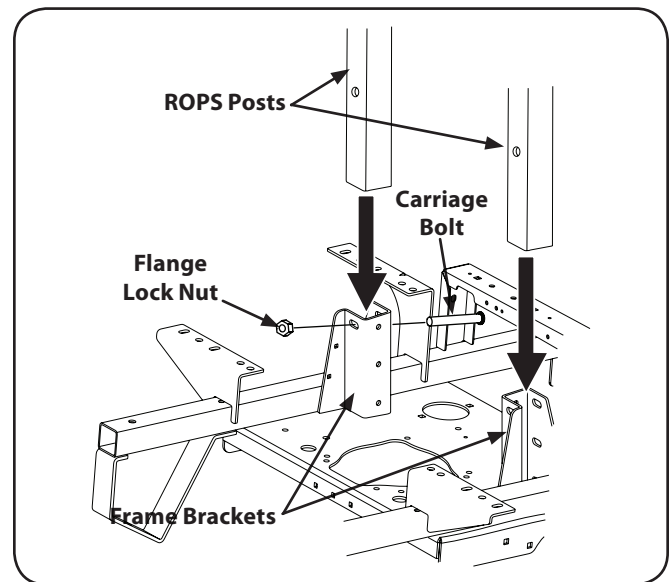

Figure 3-2
1. Insert each of the lower section ROPS tubular posts into the brackets welded to the unit main frame. See Fig. 3-2.
NOTE: The ROPS pivot holes should be positioned toward the rear of the unit. See Fig. 3-2.
2. Insert the carriage bolts (½-13 x 3.25) (one per side) in the frame brackets and ROPS posts from the front toward the rear. See Fig. 3-2. Alternately from the rear toward the front if access is restricted.
3. Install the flange lock nuts, but do not tighten. See Fig. 3-2.
6. Tighten the frame mounting hardware to 80-90 lb.-ft. torque. See Fig. 3-2.